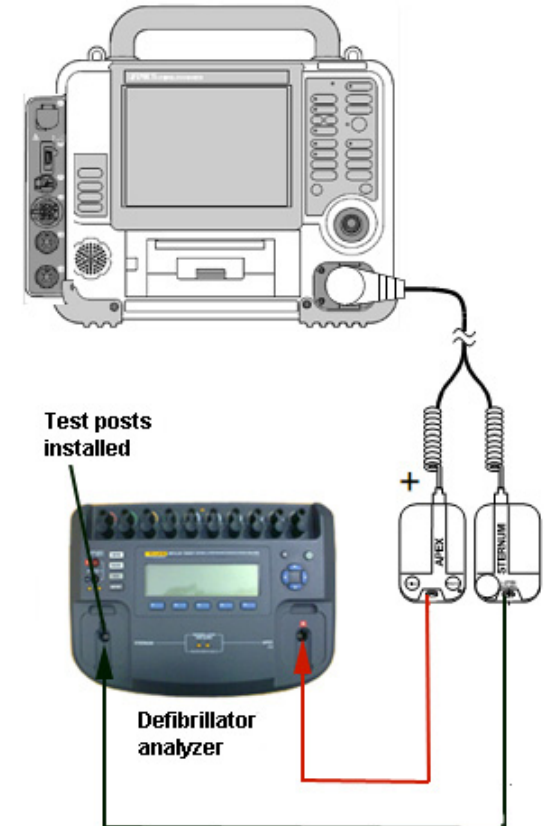

Figure 5.48—Standard paddles defibrillator charge time test setup
1. Place Standard Paddles onto the defibrillator analyzer as shown in Figure 5.48, using the appropriate adapters.